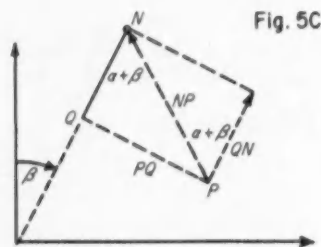
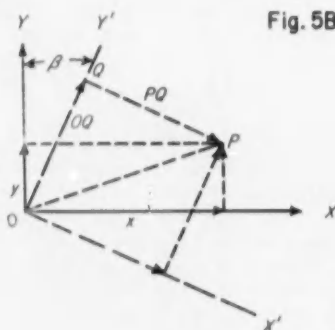

Fig. 5C
Fig. 5B
**SOLUTION**—Using a resolver circuit, rotate vectors  $x$  and  $y$  through angle  $\beta$  to form vectors  $OQ$  and  $PQ$ . To help explain this first example, this coordinate rotation is shown in detail in Figure 5B. Subtract  $OQ$  from  $ON$ , giving  $QN$ . Using the new values  $PQ$  and  $QN$ , transform from rectangular to polar coordinates to obtain  $NP$  and the angle  $\alpha$  plus  $\beta$ , Figure 5C. Subtract  $\beta$  from  $\alpha$  plus  $\beta$  to give  $\alpha$ , the desired angle. The resolver-instrumented system is shown in Figure 5D. The mechanical additions and subtractions can be performed with mechanical differentials, and the electrical additions by series-voltage addition or resistor addition.